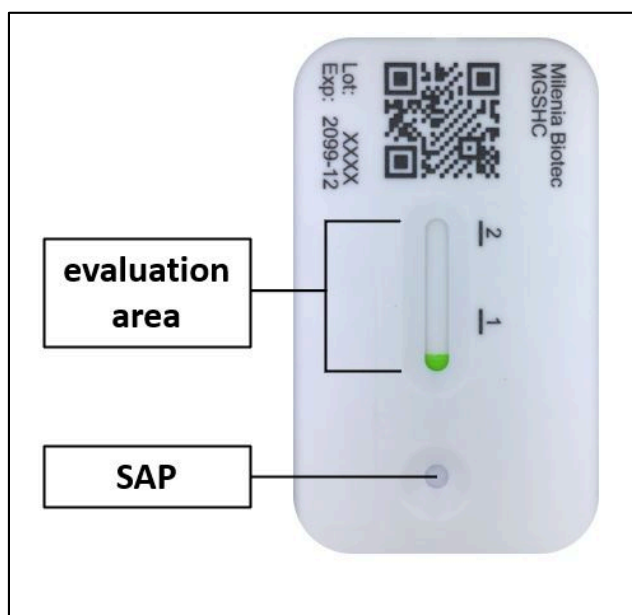

Figure 4: Evaluation Area and sample application area of the Milenia GenLine HybriDetect Cassette (MGHC)
1. The sample is applied directly to the SAP (sample application pad) through the sample application area of the cassette (Figure 4). Typical sample volumes are 10 μ L. Subsequently the chase buffer (MGCB) is applied to the SAP. The cassette is incubated for several minutes in a horizontal position. Use a buffer volume of 60-80 μ L.